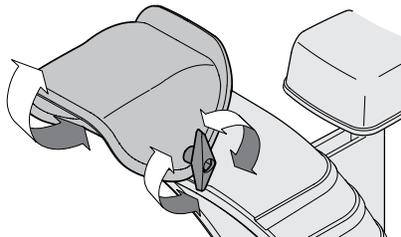

Figure 2-47
1. Loosen wing knob found on left side of chute assembly. See Figure 2-47.